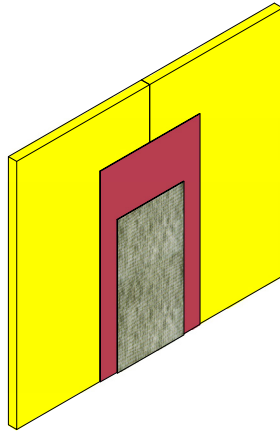

Figure 19
2. Remove the backing from the WS Flash. Using a roller firmly press the WS Flash over the joint ensuring it is well and evenly adhered. The joint is now ready to receive the final coat of Finestop RA/RS/VB. (See Figure 19)